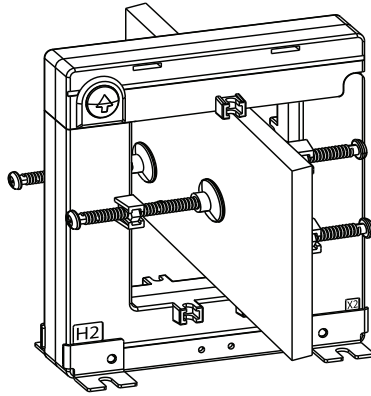

Figure 4 Busbar Clamped to AcuCT-3337A
3. Tighten the clamping screws evenly until the conductor or busbar is secure and the CT cannot rock, slide, or twist as depicted in Figure 4.